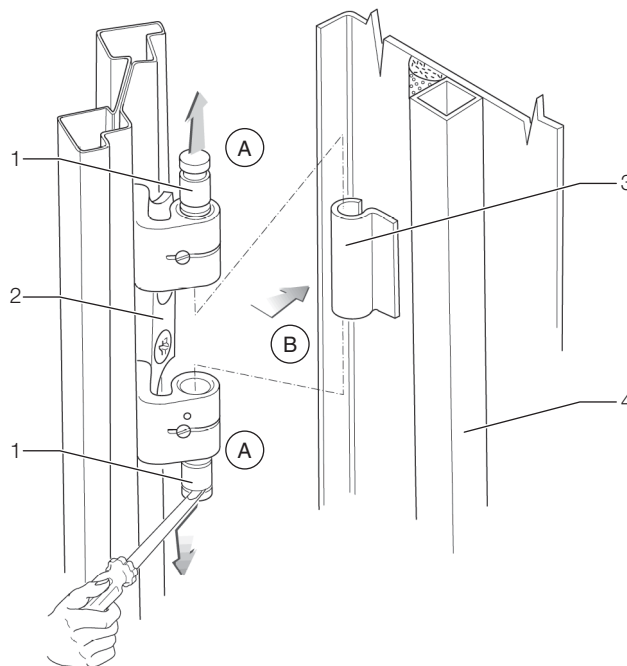

Fig. 25: Door hinge – dismantling
- Loosen the hinge bolts from the four door hinges by raising them with an appropriate tool (e.g. screwdriver). Pull the bolts out of the hinge bolt holding fixture up to the catch (see Fig. 25, Step A). Begin with the lowest door hinge.
- Remove the server enclosure door (see Fig. 25, Step B).